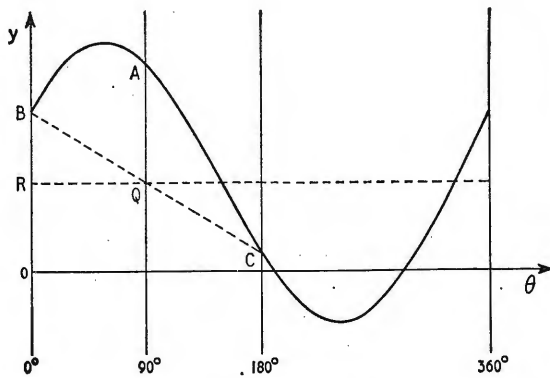
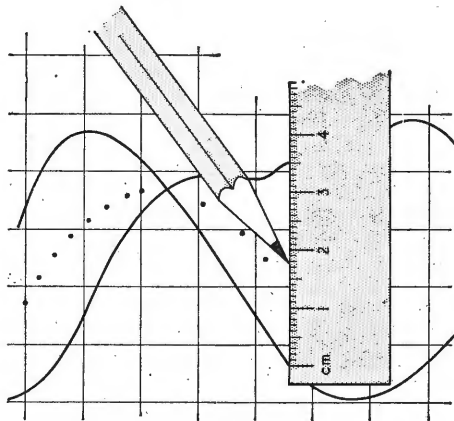

Fig. 2. The construction for  $a_1$  and  $b_1$ .
Fig. 3. Plotting a mean curve.
The amplifier is a high-gain miniaturized circuit. Its output is coupled to the bridge rectifier by means of step-up transformer T3. The rectified output is filtered by a low-pass network consisting of C5, C6 and R6, providing a direct output voltage proportional to the bridge-biasing current at its input (Fig. 3).
Fig. 2. Ring modulator/amplifier/detector circuit corresponding to block diagram Fig. 1. Note that R4 sets a.c. gain of amplifier. Component values given apply to American semiconductor devices used by author.
Fig. 3. Input/output characteristic of Fig. 2. As demodulator is not phase-sensitive reverse-polarity but equal-amplitude inputs give outputs of one polarity only.
and one cycle is shown in Fig. 2. The values of  $b_0$ ,  $a_1$ , and  $b_1$  are readily found on this diagram if the  $90^\circ$  and  $180^\circ$  ordinates are drawn as shown. The  $y$ -values of B, A and C are clearly  $b_0 + b_1$ ,  $b_0 + a_1$ , and  $b_0 - b_1$  respectively. So if BC meets the  $90^\circ$  ordinate at Q, then the  $y$ -value of Q is  $b_0$ . A horizontal line RQ can then be drawn through Q, and RB must represent  $b_1$ , and QA must represent  $a_1$ , the sign, of course, being negative if B or A lie below the line RQ.
**Constructing a Mean of Two Curves:** In dealing with more complex waveforms, an important technique is the construction of the *mean* of a pair of superimposed curves. With a little practice this can be done speedily as shown in Fig. 3. Each point is plotted by laying the ruler along an ordinate with its "O" mark on the lower curve, and mentally halving the distance between the two curves on this particular ordinate, as shown in the figure. It is not necessary for these ordinates to be equally spaced; points need to be plotted fairly closely only when one or other of the curves is changing direction rapidly. The plotted points are then joined with a curve in the usual manner, using a broken line, or some other feature, to distinguish it from the original two curves. This curve is the required mean.
will then enable  $a_4$  and  $b_4$  to be measured. If Fig. 12 is too small to apply the construction illustrated in Fig. 2, the axis of the sine curve can be drawn in by eye, giving  $b_0$ , and after marking the  $11\frac{1}{4}^\circ$  ordinate,  $a_8$  and  $b_8$  can be found.